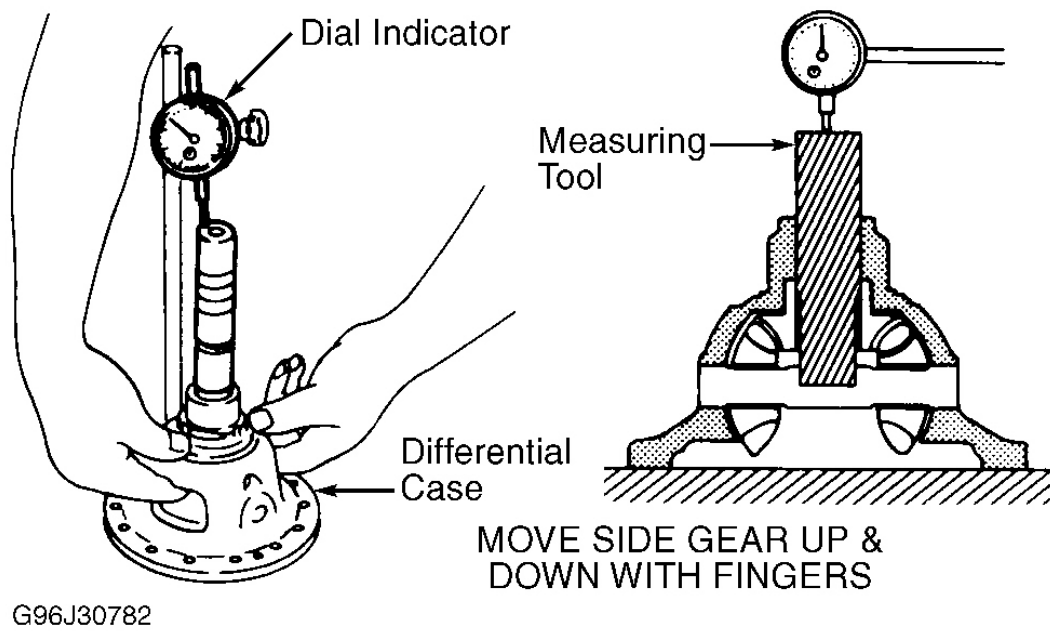

Fig. 47: Measuring Side Gear-To-Differential Case Clearance
1. Using a dial indicator and Adapter (J39713), measure clearance on differential case side, between side gear thrust washer and differential case. Move side gear up and down to measure deflection. Always measure deflection of both side gears. See **Fig. 47**.
1. Using a dial indicator and Adapter (J39883), measure clearance on differential case side, between side gear thrust washer and differential case. Move side gear up and down to measure deflection. See **Fig. 47**.